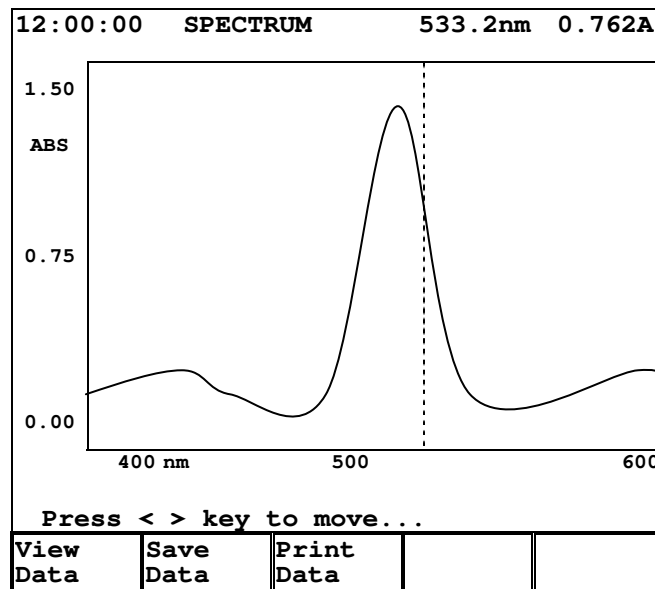

Figure 6.6 Graph under Show Track function
Step 7. If users want to trace readings of measurement result, function Show Track is designed for this purpose. Pressing F3 Show Track will make a dotted vertical line showing up in the graph (Figure 6.6). Use left/right arrow keys to move the dotted line one pixel in the corresponding direction. Use up/down arrow keys to move dotted line ten pixels in right and left directions respectively. During the tracing process, corresponding values for traced